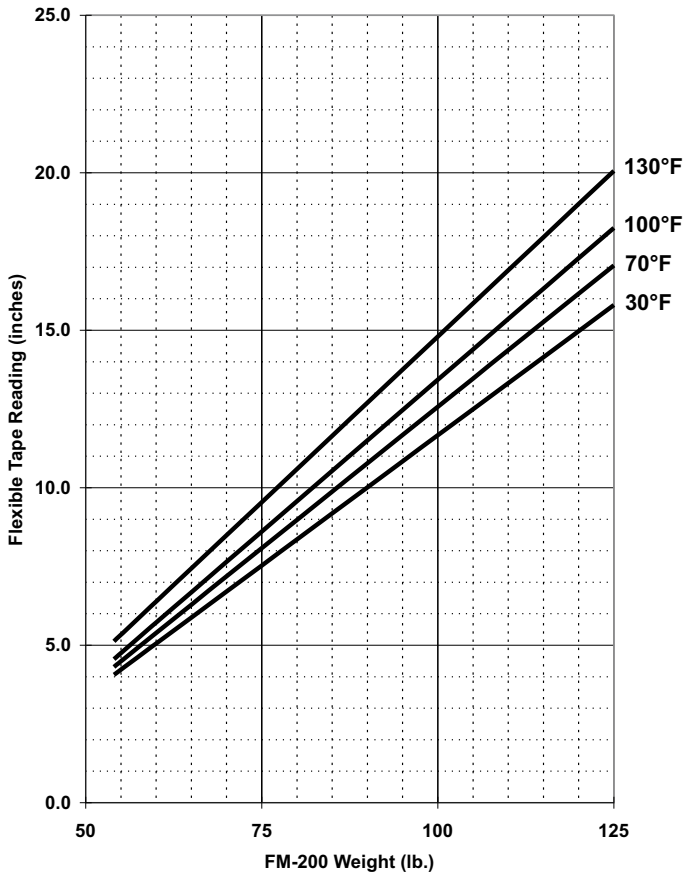

Figure 5-2. Calibration Chart 125 lb. Cylinder
7. Refer to the appropriate calibration charts (see Figures 5-2 through 5-7) and locate the level reading on the vertical axis (labeled Flexible Tape Reading). Trace horizontally to the right to the appropriate temperature line. Read the weight of FM-200 from the scale at the bottom of the chart. Record the weight and date on the record tag attached to the cylinder.